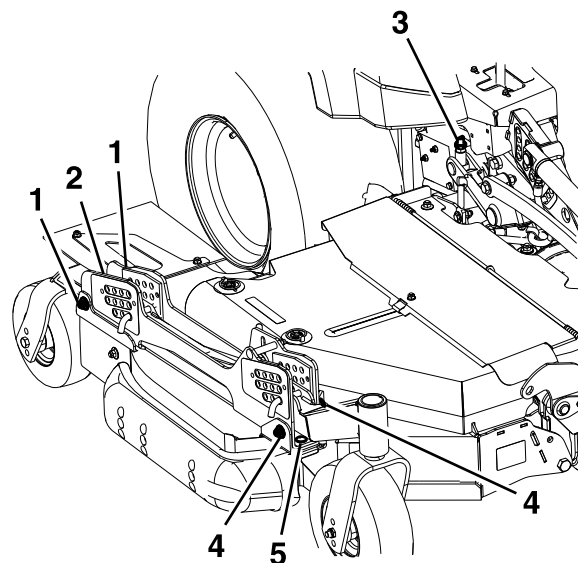

Figure 74
- The left and right wing decks have blade height adjustments with front and rear adjustment points. To adjust the wing-blade height, first loosen the front and rear height-of-cut hanger mounting nuts. There are 4 locations (2 on each side of the channel) as shown in Figure 74.
- If the deck is too low, tighten the front height-adjustment bolt (Figure 74) by rotating the bottom nut clockwise.
- If the deck is too high, loosen the front height-adjustment bolt (Figure 74) by rotating the bottom nut counterclockwise. Fine-tune the rear adjusters as required.
Adjust the rear wheel height (Figure 74) so that the rear wheel lightly touches the ground with minimal pressure.
- Measure the back of the wing blades. If either has less than 1.5 mm (1/16 inch) rake, raise the rear of the deck by tightening the left and right rear adjustments (Figure 74) until all 4 blades have a minimum of 1.5 mm (1/16 inch) rake. Adjust the rear wing wheels so that they lightly touch the ground with minimal pressure. Tighten all 4 rear hanger-mount locations (Figure 74).